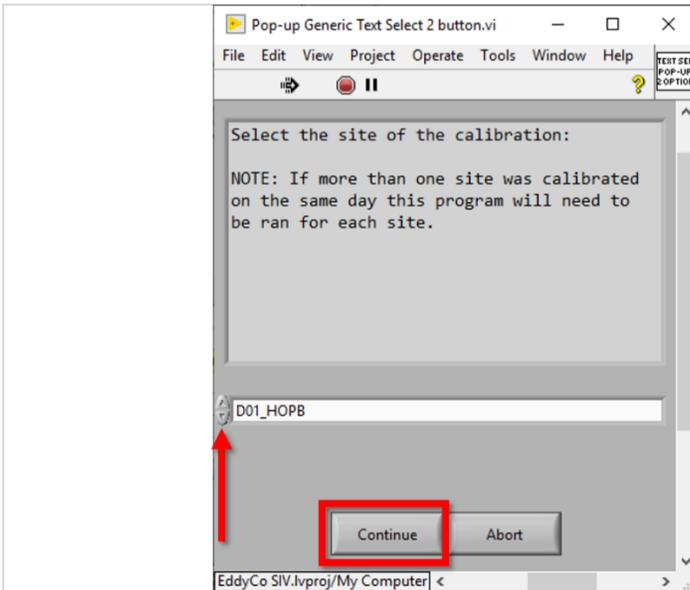

Figure 144. Select the site of the calibration pop-up window
**STEP 5** | Select the site where you conducted the Multisonde calibrations from the dropdown (**Figure 144**). This example uses Domain 10 ARIK.